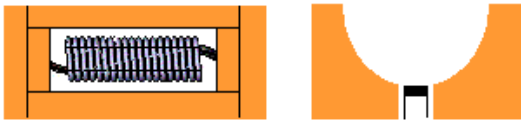

Figure 6.2 – Correct position of filament
18. Check the position of the filament (Figure 6.2).